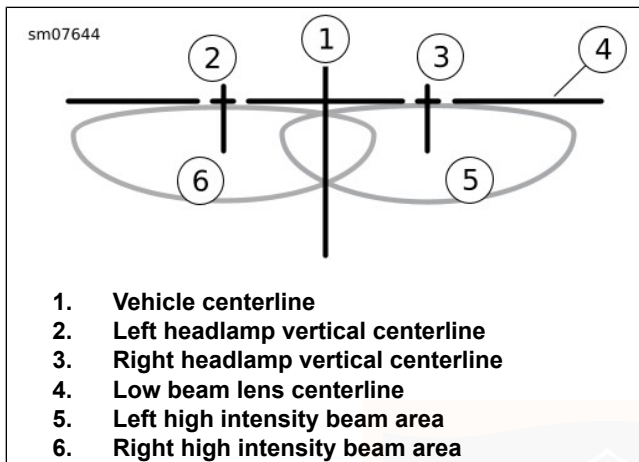

Figure 82. Headlamp Beam Pattern: Dual LED
- b. See Figure 82. The headlamps are aligned when the light beam hot spots are located at or below line (4) and centered on lines (2, 3).
5. See Figure 82. Cover the right headlamp. Adjust left headlamp so the top of the high intensity zone (6) is at or below horizontal line (4) and centered under the left centerline (2).
6. Cover the left headlamp. Adjust right headlamp so the top of the high intensity zone (5) is at or below horizontal line (4) and centered under the right centerline (3).